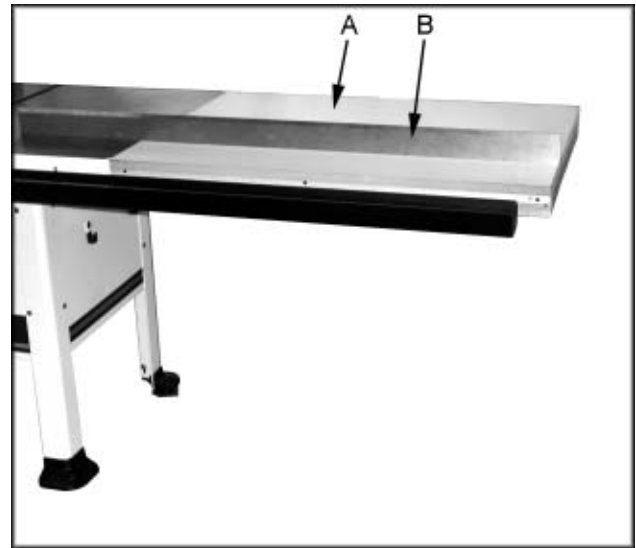

Fig. 23
- **Hardware:** Extension Table, (4) 1/4"-20 x 1-1/4" Hex Cap Bolts, (6) 1/4" Flat Washers, (2) 1-1/2" x 1" Large Washers, (4) 1/4" Lock Washers, (4) 1/4" Hex Nuts, (2) Legs & (8) Wood Screws
- **Tools:** 13mm Wrench, Straight Edge, (2) C-Clamps, Drill, 1/4" & 3/16" Drill Bit
1. Use two c-clamps on the rear rail to hold the extension table (A, Fig. 23) in place. The front of the extension table should rest on the front rail.
2. Place a straight edge (B, Fig. 23) on the saw table and extension table. Make sure they are level and flush. Tighten the c-clamp to hold in place. **Note:** If you don't have a straight edge you can use the fence after removing the fence body and hook.